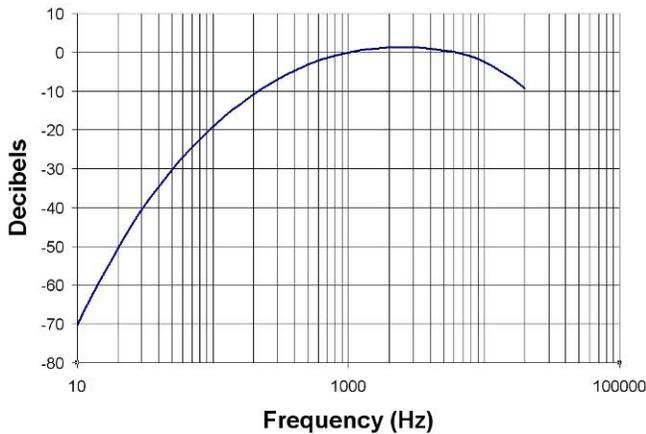

Figure 1. Sound Meter “A” Weighted Network Model Aircraft to be Tested
A. The frequency response of the "A" weighted scale is equal to the human ear audio response with an undistorted sine wave; no harmonics. See Figure 1 for a typical frequency response of the "A" weighted scale.